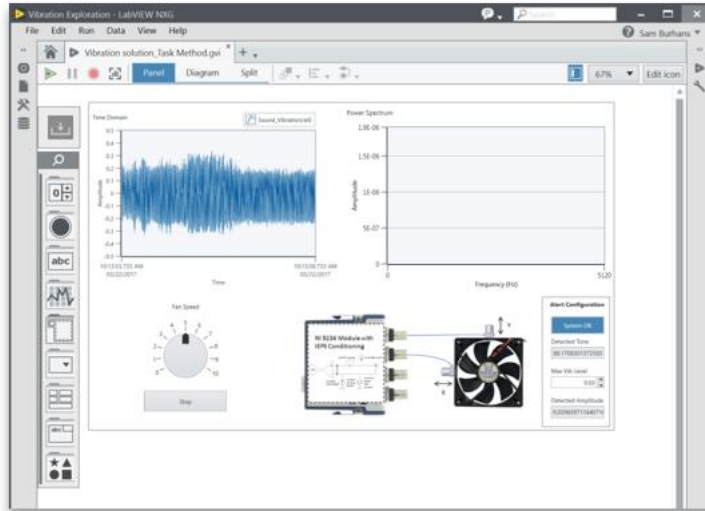

Figure 7-6 This VI will acquire a time-domain vibration signal and calculate the frequency content using LabVIEW VIs
14. Through the rest of this section you will build the VI shown in Figure 7-6. Ensure that the switch on the Sound and Vibration Signal Simulator in your hardware demo box is flipped to BNC. Press the run button in the solution program.